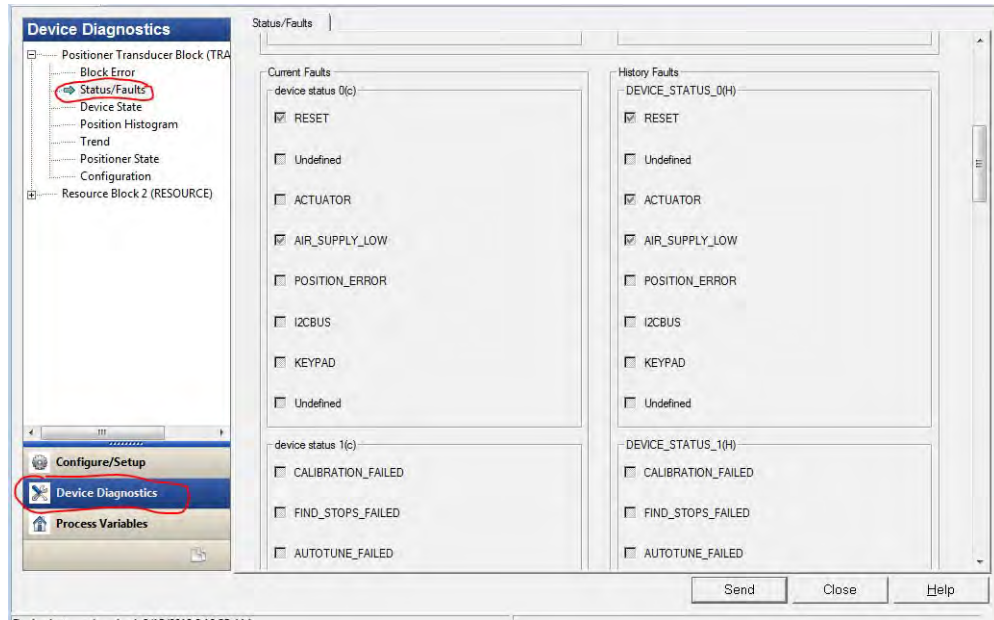

Figure 40 AMS Status/Faults
1. Inspect the (current) faults/status flags (Figure 40).
- i.) Scrolling down and pressing the button at the bottom of Figure 40.